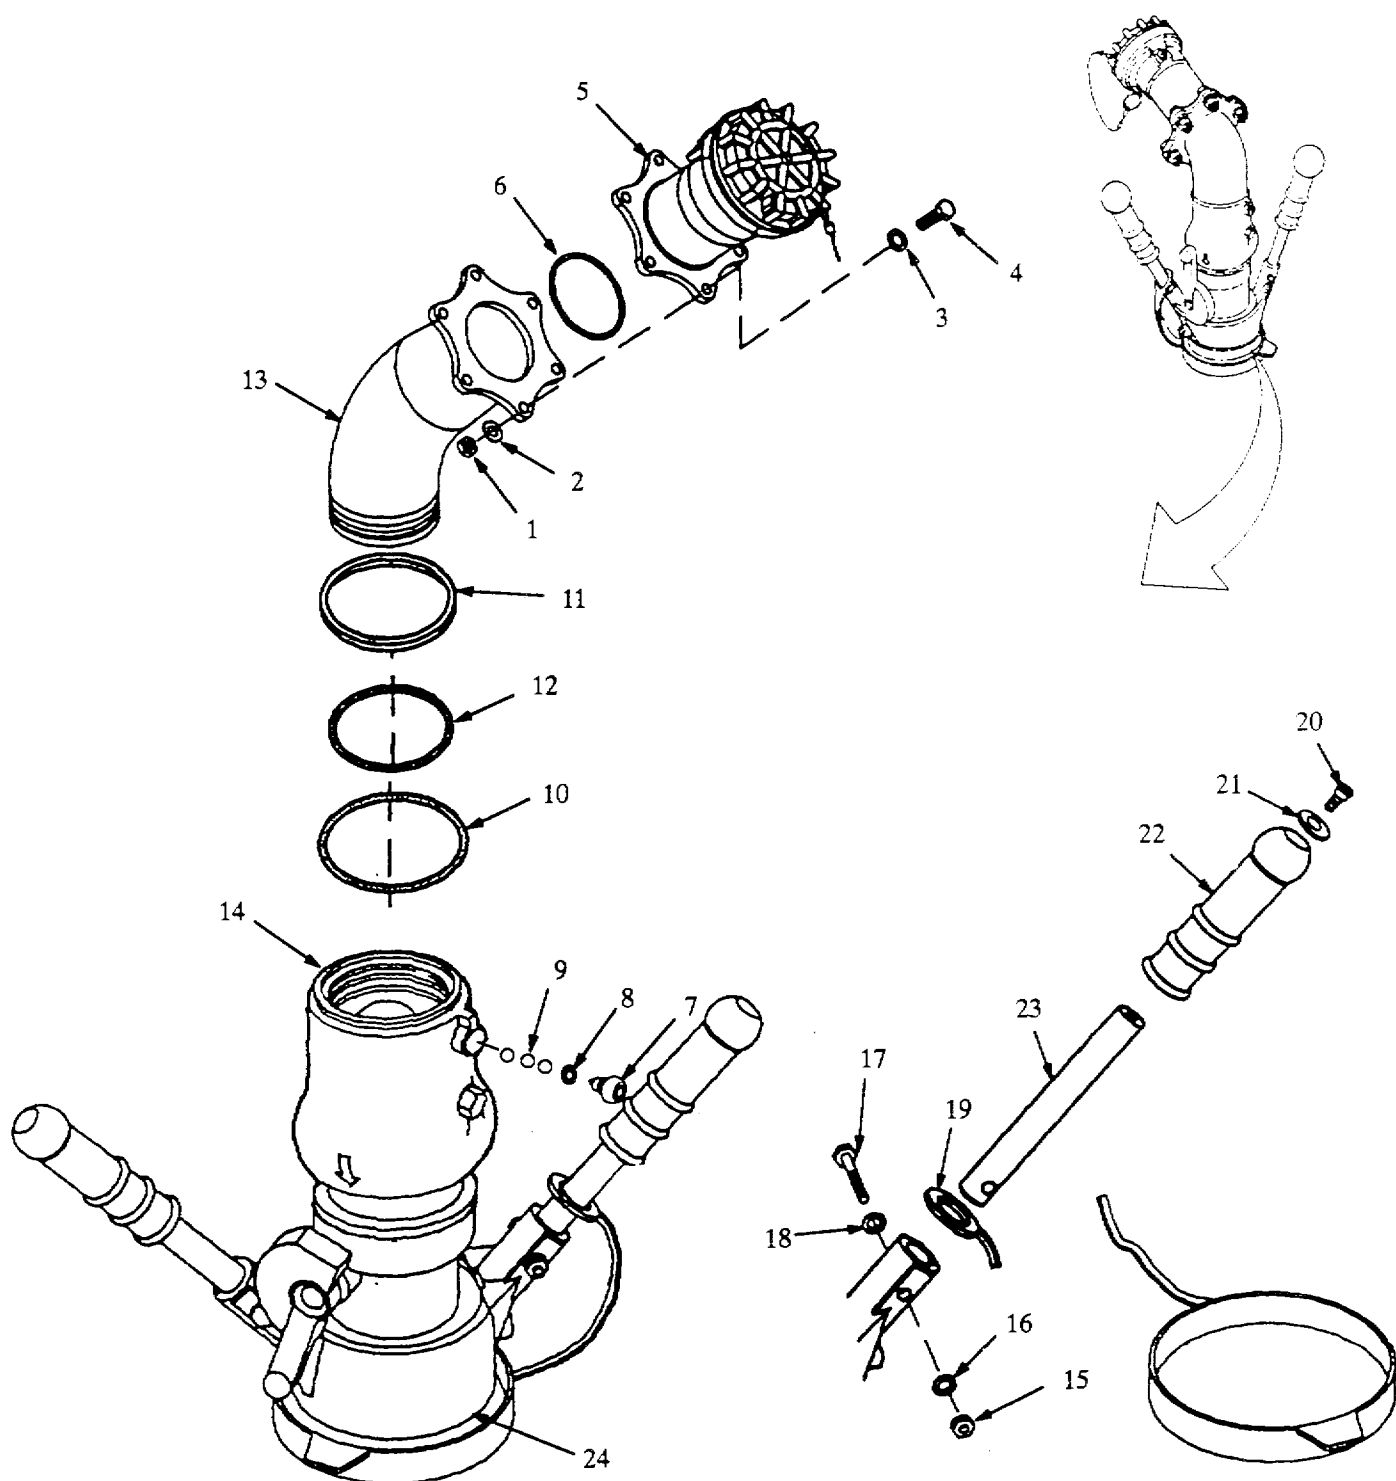

Figure 4-1A. Pressure Fuel Servicing Nozzle (D1) Repair.
- a. Disassembly. Refer to figure 4-1A.
- (1) Remove six self locking nuts (1), flat washers (2), screws (3), and flat washers (4).
- (2) Separate coupling adapter (5) from inlet elbow (13), and remove preformed packing (6).
- (3) Remove screw (7) and attached preformed packing (8) from regulator (14).
- (4) Position regulator (14) so that opening for balls (9) is pointing down.
- (5) Rotate inlet elbow (13) back and forth on regulator (14) until 39 balls (9) are removed.
c. Inspection. Refer to figure 4-1A.
- (1) Inspect inlet elbow (13) for cracks and corrosion. Check for scratches and abrasion at all sealing surfaces.
- (2) Inspect regulator (14) for cracks, corrosion and damaged or missing parts.
- (3) Inspect coupling adapter (5) for cracks, missing components and corrosion.
- (4) Inspect collar (24) for cracks and corrosion.
d. Repair. Replace damaged or defective components. Replace all mandatory replacement parts. Repair non-valved dry break coupling on coupling adapter (para 4-14).e. Assembly. Refer to figure 4-1A.**NOTE**
- (1) Place handle (23) in vise.
- (2) Push grip (22) onto handle (23).
- (3) Install flat washer (21) and self locking socket screw (20) in grip (22).
- (4) Slide cap (19) onto handle (23).
- (5) Remove handle (23) from vise and position in collar (24).
- (6) Install flat washer (18), screw (17), flat washer (16) and self locking nut (15) in collar (24).
- (7) Repeat steps (1) through (6), except step (4), for other handle.
- (8) Apply a light coat of silicone compound to preformed packings (6, 8, 10 and 12) to aid installation.